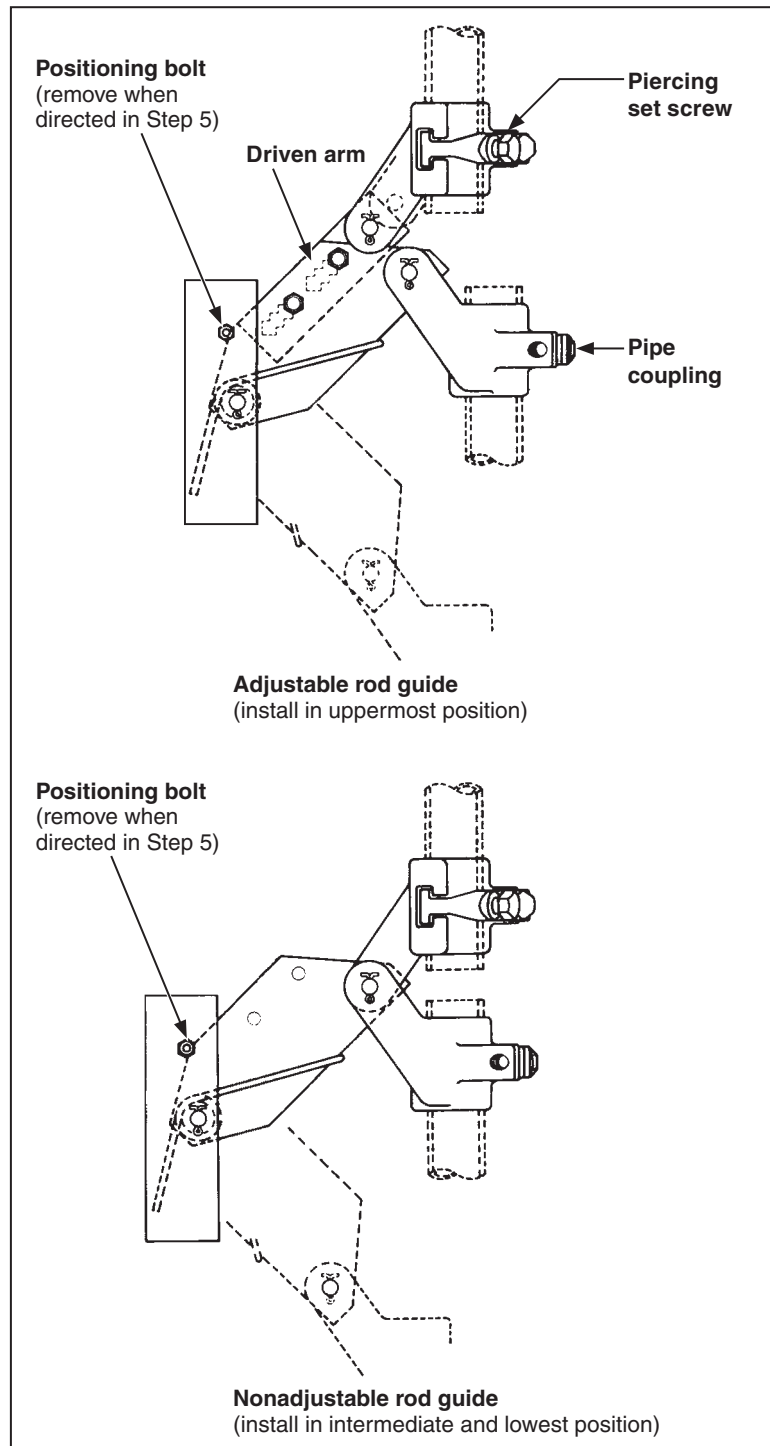

Figure 11. Rod-guide assemblies for use with  $1\frac{1}{4}$ " IPS vertical operating pipe, furnished with Standard Minor Modification Suffix "-S15."
- c. Slip the lower end of the vertical operating pipe into the coupling on the driven arm of the adjustable rod guide, with the rod-guide arm pointing upward at a 45-degree angle. See Figure 11. A positioning bolt holds the rod-guide arm at 45 degrees. Securely tighten the rod-guide clamp bolt. Then, securely tighten the associated piercing set screw.
- g. Now remove the temporary 45-degree positioning bolt from each rod guide. See Figure 11. Remove the locking bar and loosen the clamp bolt on the lowest rod-guide coupling. Then, while holding the handle approximately 20 degrees from the closed position, retighten the rod-guide clamp bolts. Do not tighten the associated set screw. Finally, move the handle to the fully closed position. A definite resistance should be felt at the end of the stroke, indicating that all slack in the operating linkage has been taken up.